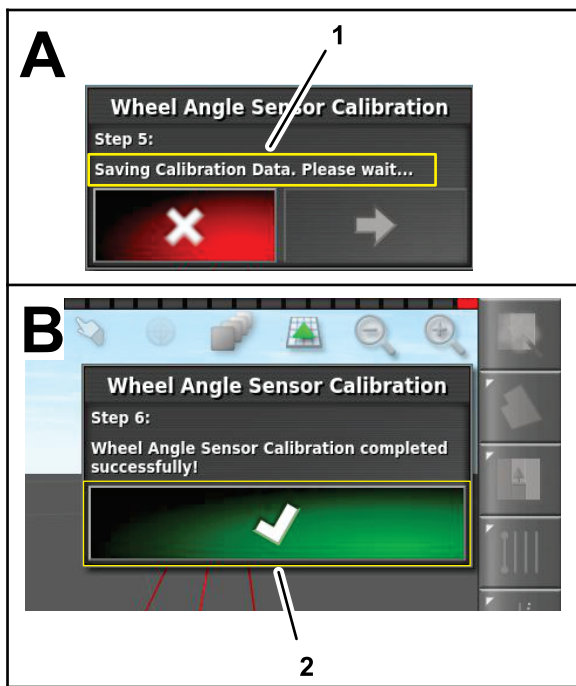

Figure 165
9. At step 5, wait until the wheel angle sensor calibration saves data, and press the next step icon (Figure 165).
10. At step 6, press the conform icon (Figure 165).